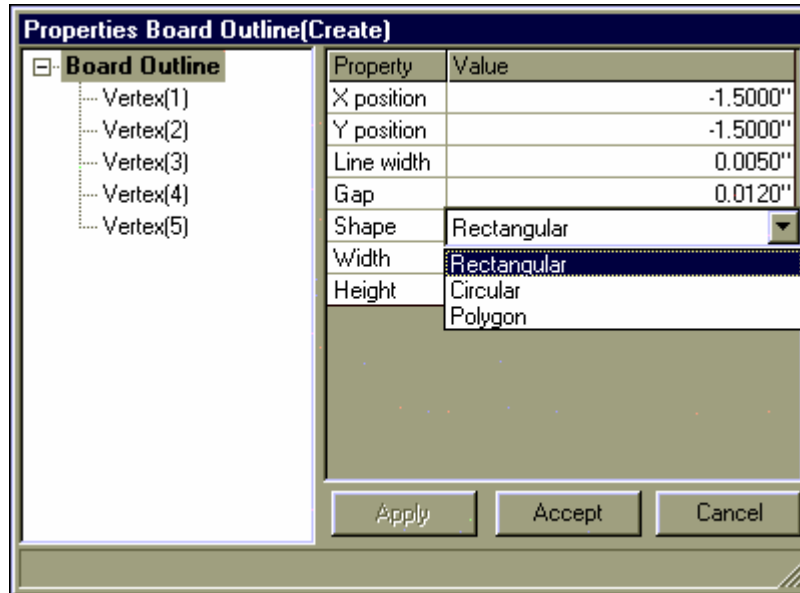

Fig.8.1
- iv. To select a pre-defined board format, select the option tool  **Textual Mode**. The Properties Board Outline (Create) dialog pops up as shown in Fig.8.1.